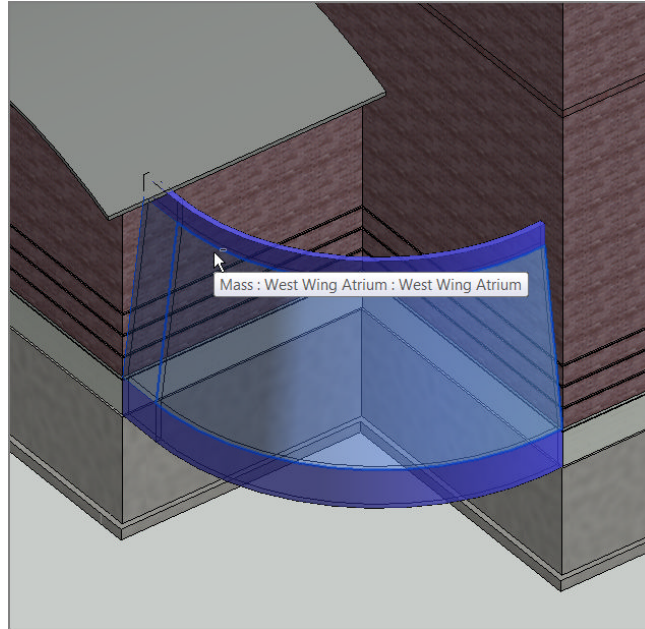

FIGURE 16.49: Selecting the faces to host the curtain system
11. Pick the two sloping faces of the mass, as shown in Figure 16.49.